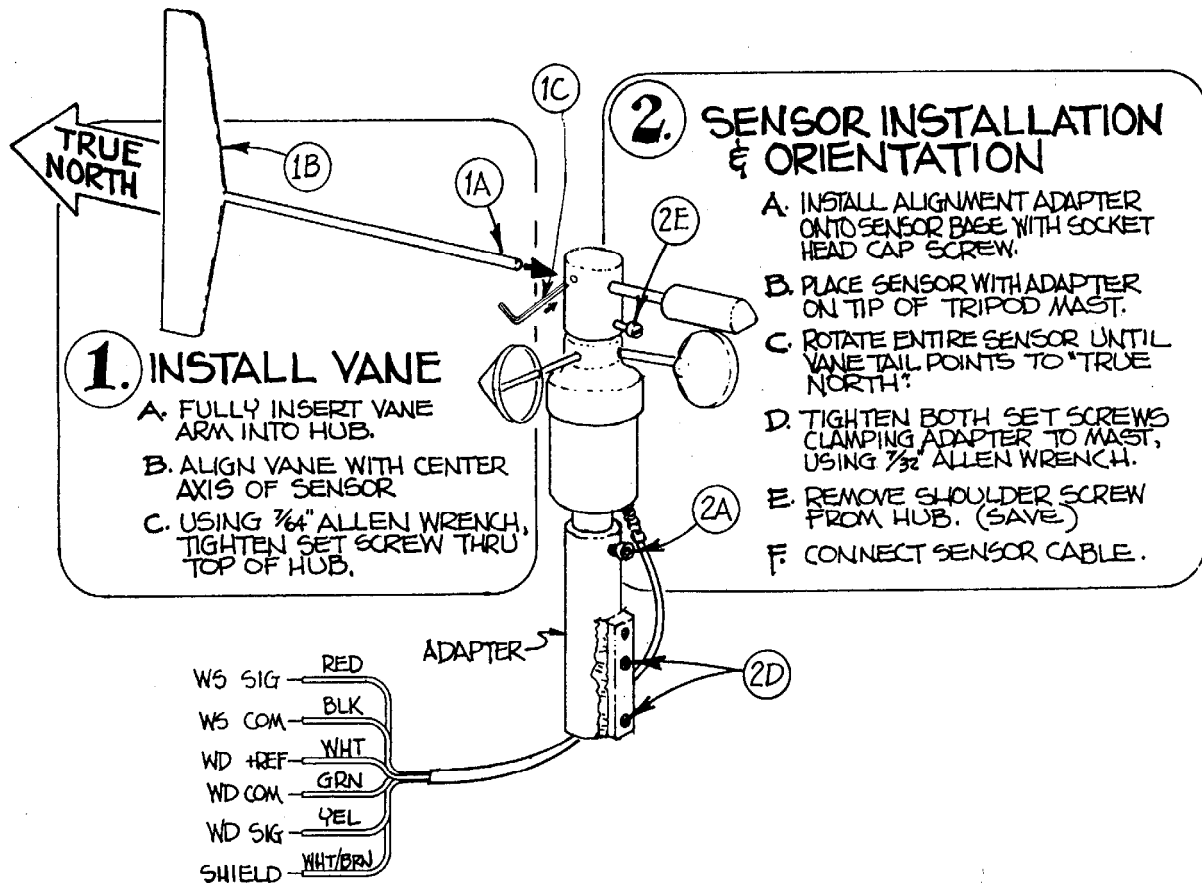

FIGURE 2-1
2.0 INSTALLATION (See FIGURE 2-1)
- F. Connect the cable to the sensor. Route the cable to the data recording device. Secure the cable with cable ties or tape. The cable assembly contains 5 wires. Typical wiring hookup is shown in FIGURE 2-1.